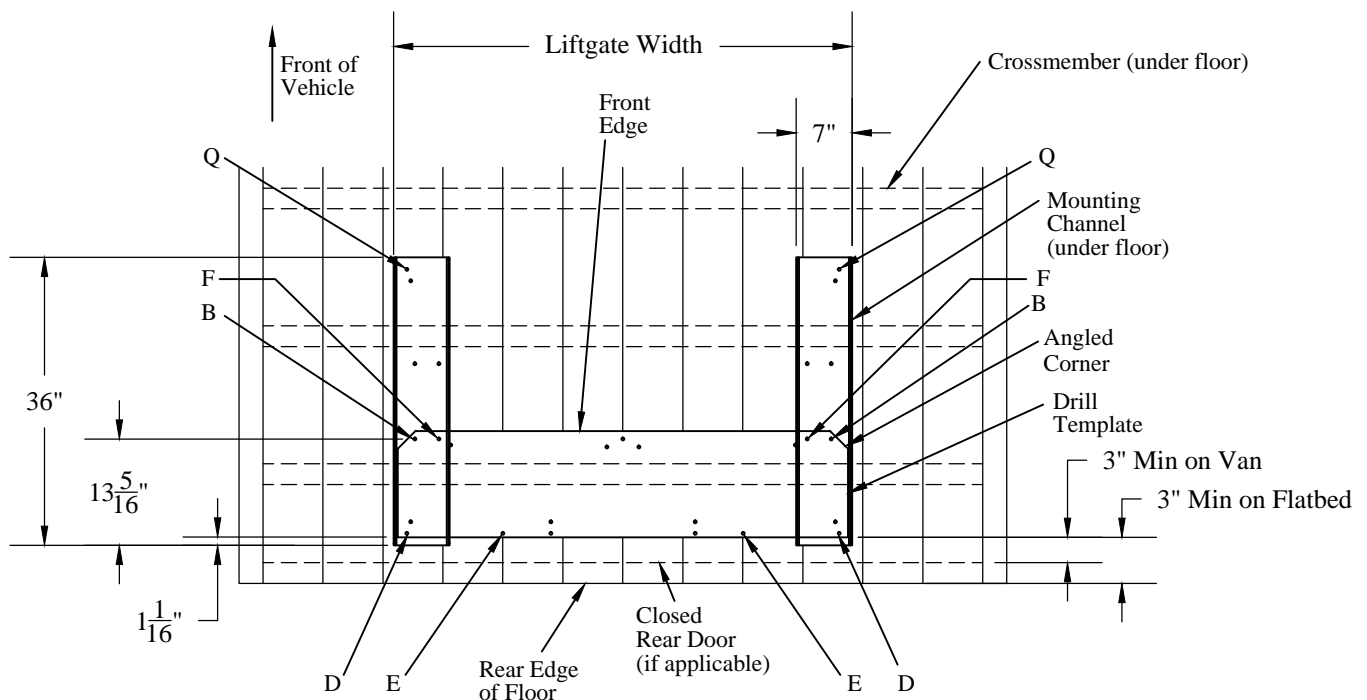
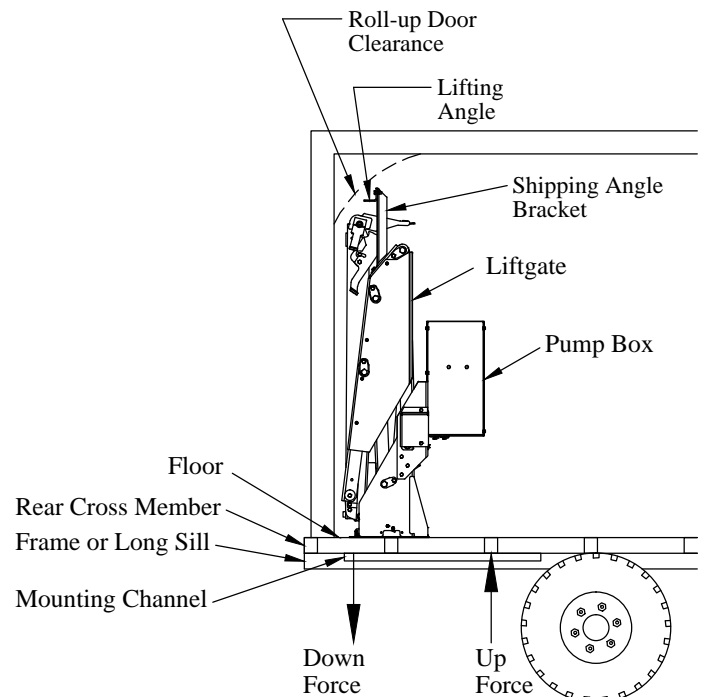
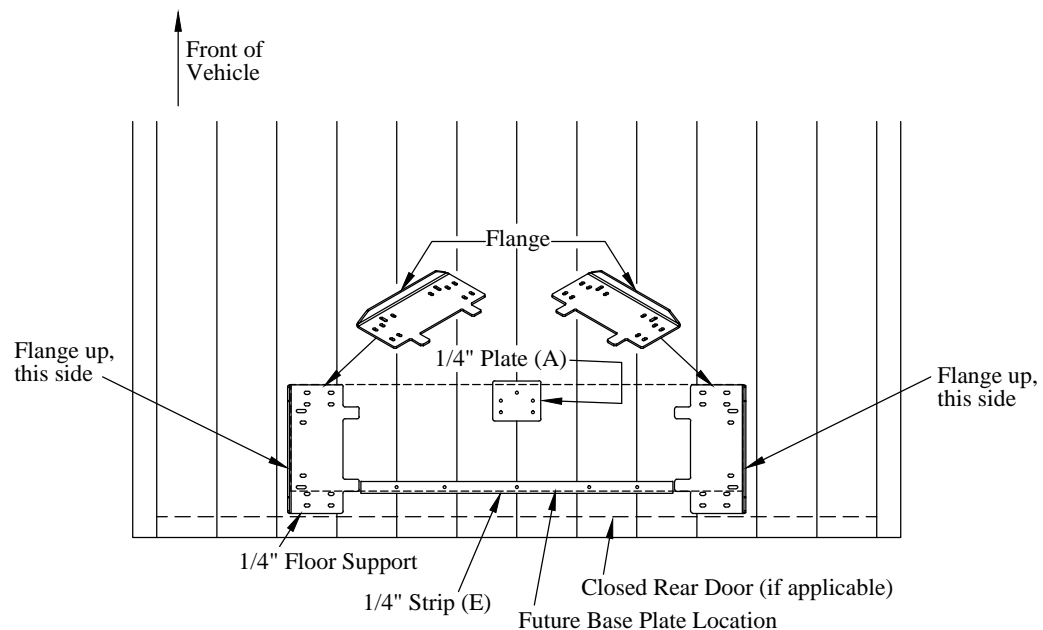

Figure 4: Liftgate location (top view).
Figure 6: Liftgate positioning.
Figure 8: Floor support locations (top view).
- Liftgate base plate is at least 3" from inside of door(s) or rear edge of flatbed to allow space for the floor supports (Figure 4) and (Figure 8).
- Roll up door will clear the top of the stored liftgate (Figure 6).
- Bolt locations are free of obstructions (Figure 4).
3. **Verify** that the selected location provides the following structure (Figure 4) and (Figure 6).
1. **Position** the 1/4" floor supports on the vehicle floor (Figure 8).
2. **Position** the 1/4" strip between the floor supports along the "E" locations (Figure 8).
3. **Position** the 1/4" plate at the "A" location (Figure 8).